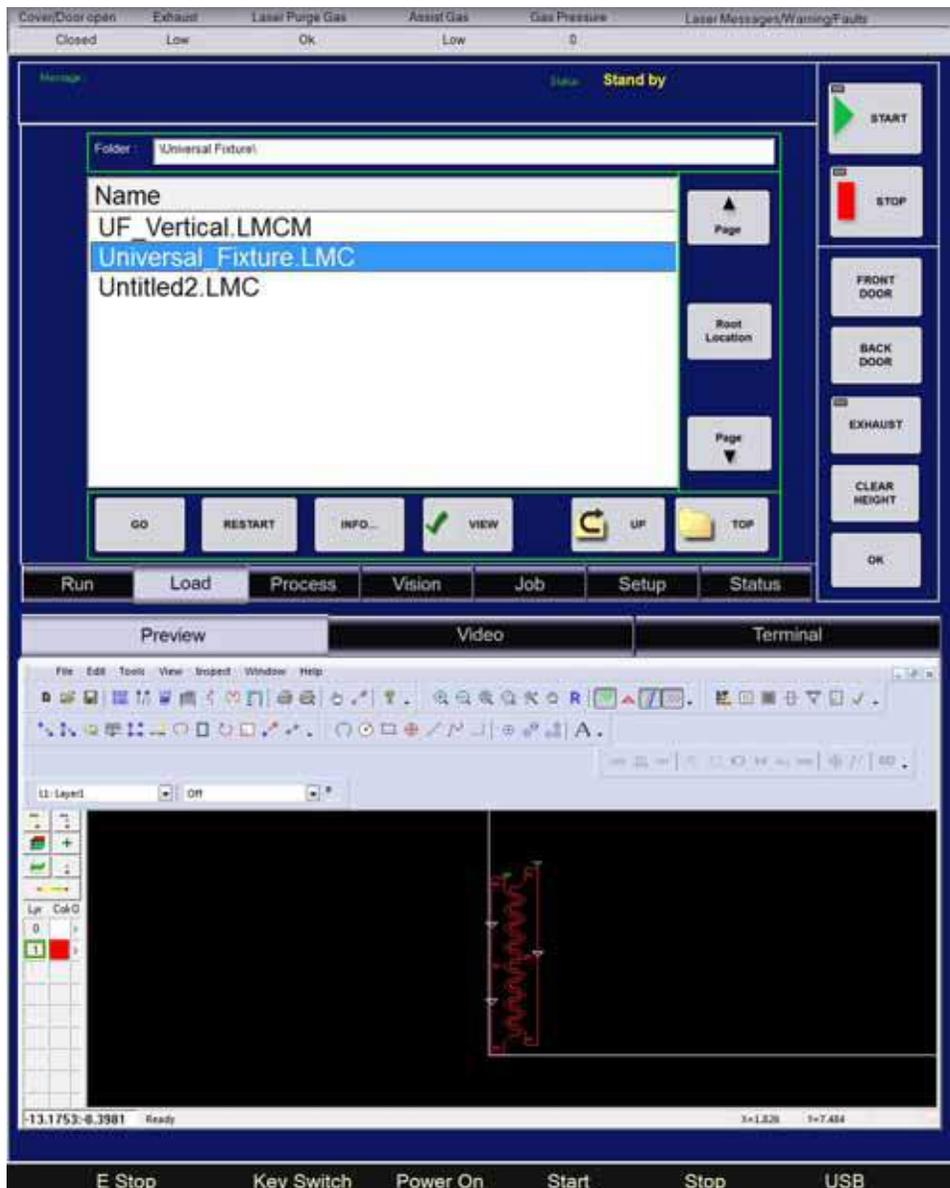

Figure 4-8. HMI Load Tab with Job file selected
1. Go to the Load Tab of the HMI and navigate the file tree to the location of the desired Job file (See Figure 4-8).